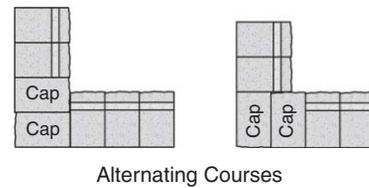

Figure 9
**Inside Corners:** Inside corners are easy to build. Use 2 *Full Caps* for every course at the intersecting corners, alternating the courses as shown in Fig. 9. Apply construction adhesive to the corner cap units for added strength.